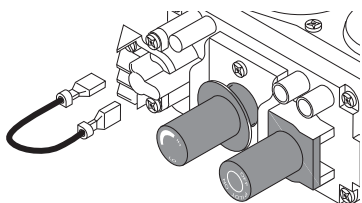

Figure 20 - Disconnecting Jumper Wires From Control Valve
1. Remove jumper wire from control valve (see Figure 20).
1. Remove jumper wire from control valve (see Figure 20, page 16).